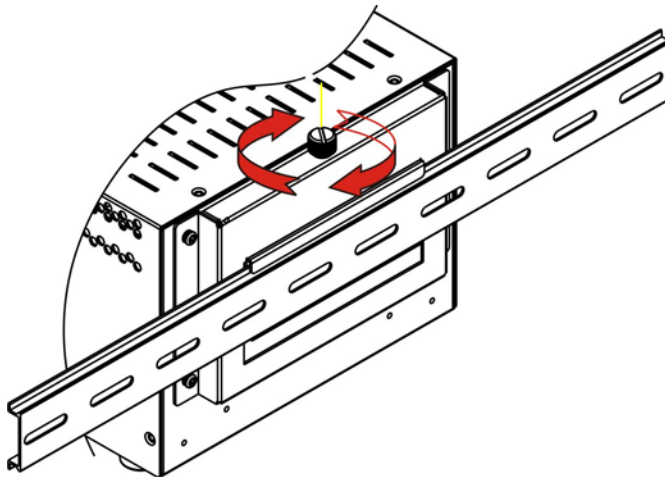

Figure 4-17: Secure the Assembly to the DIN Rail
- Step 4:** Secure the DIN rail to the mounting bracket by turning the top screw clockwise. This draws the lower clamp up and secures the embedded system to the DIN rail (**Figure 4-17**).